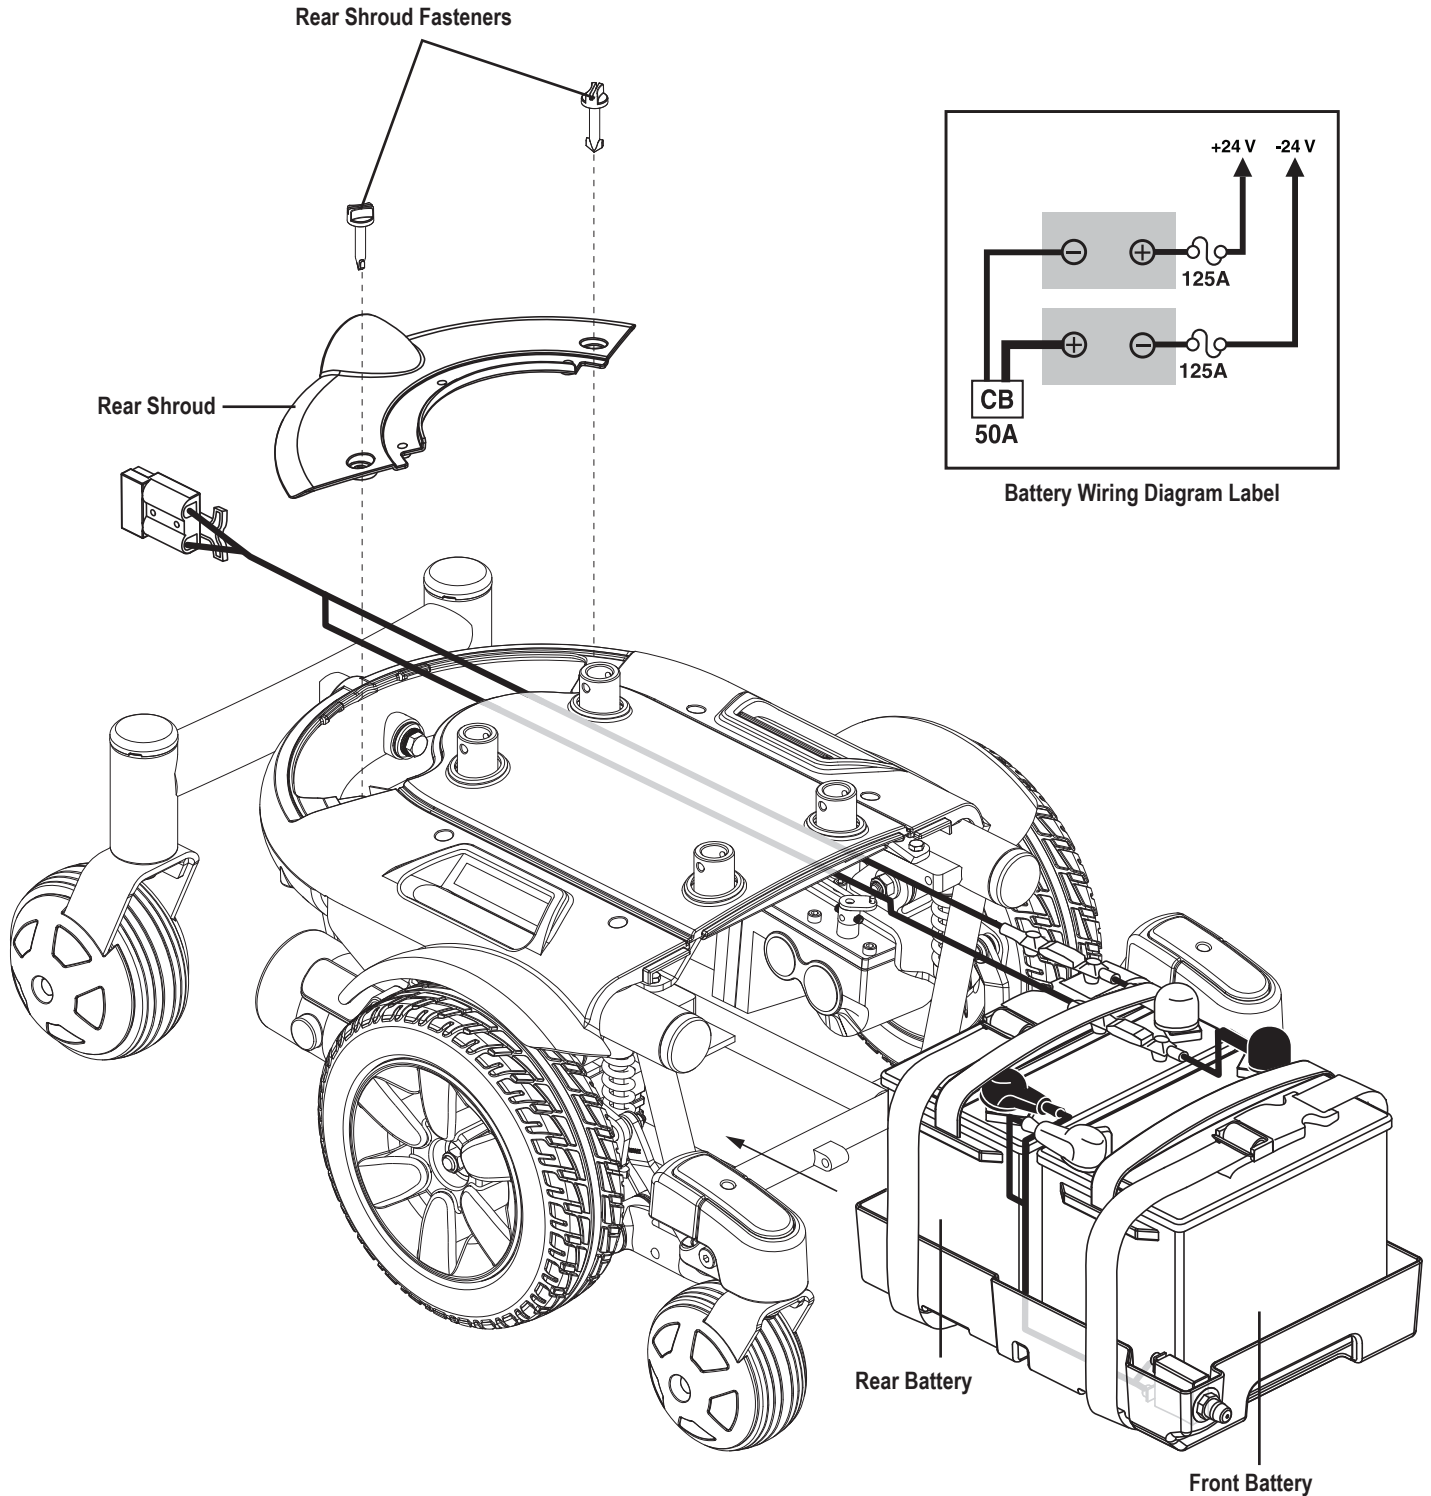

Figure 25. Battery Installation
4. Remove the rear shroud. **See figure 25.**
13. Connect the battery harness to the front battery according to the battery wiring diagram. **See figure 25.**